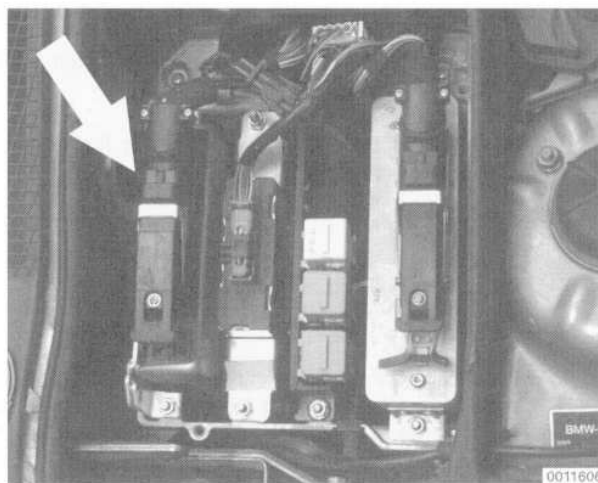

Fig. 16. DME engine control module location (arrow) in electronics box.
- Unplug the control module harness connector by releasing the fastener and pivoting the connector up and off of the ECM. See Fig. 16.